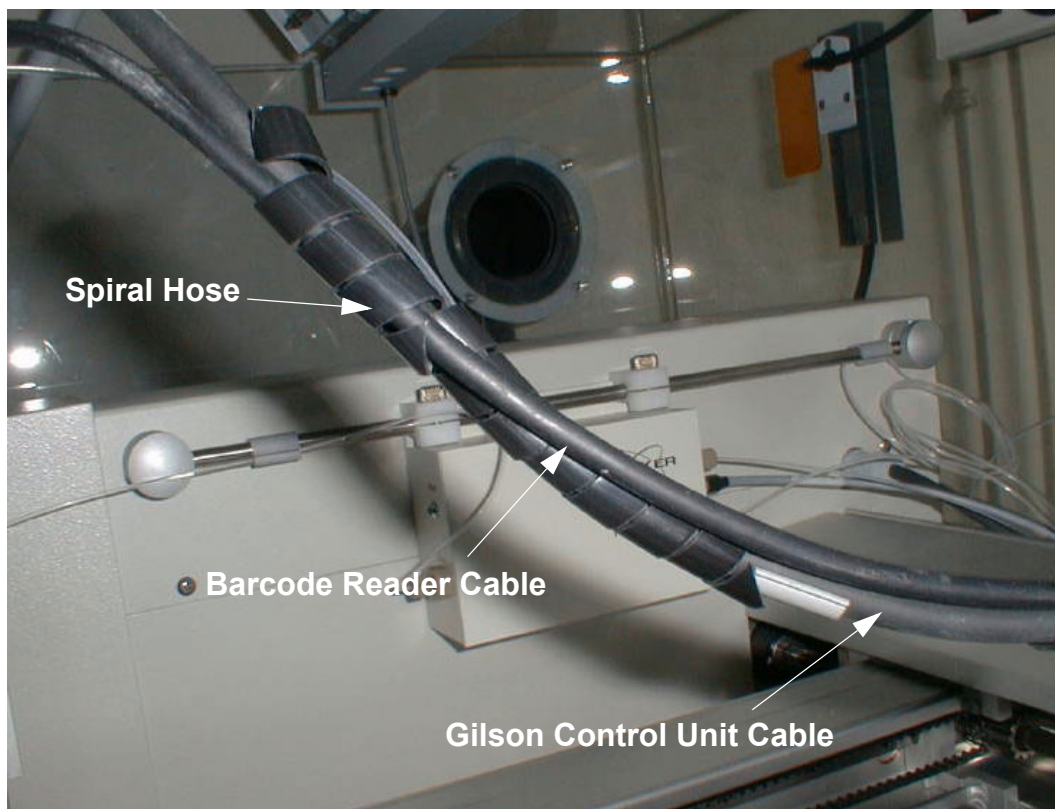

Figure 3.4. Securing the Barcode Reader Cable to the Control Unit Cable
4. Affix the barcode reader cable to the Gilson Control Unit cable using the spiral hose (see figure 3.4).